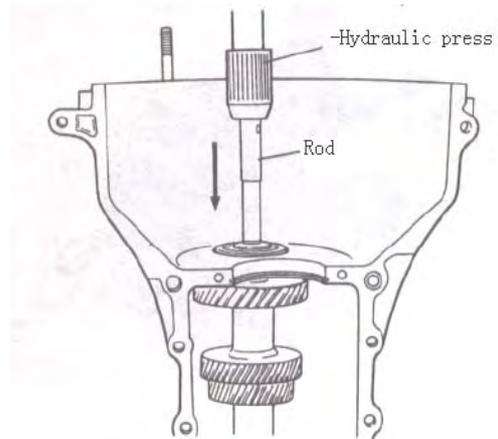
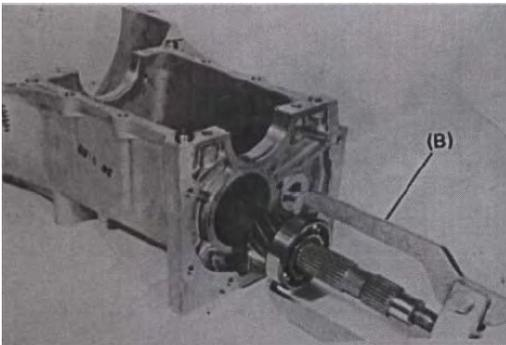

Fig 10-22
Fig 10-23
(4) Remove circlip from countershaft by using bearing remover (B). Push out countershaft to extension case side by using hydraulic press, remove bearing, and take countershaft assembly out of case. (FIG.10-22, FIG.10-23)